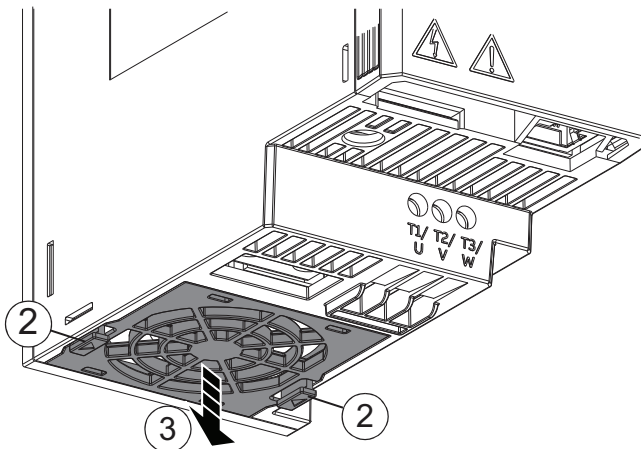

Fig. 12 — Lifting the Fan Cover out of Drive
3. Carefully lift the fan cover out of the drive. Note that the fan cover holds the cooling fan. (See Fig. 12.)